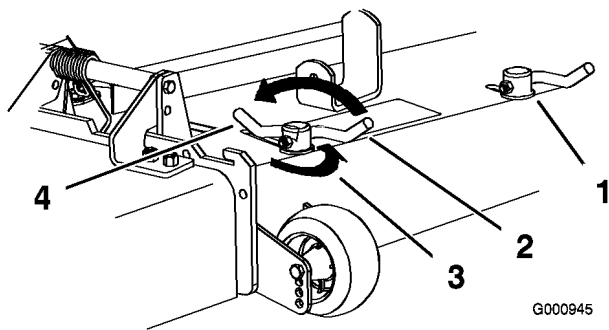

Figure 23
- To adjust the cam locks, swing the lever up to loosen the cam lock (Figure 23).
- Swing the lever back over to tighten the baffle and cam locks (Figure 23).